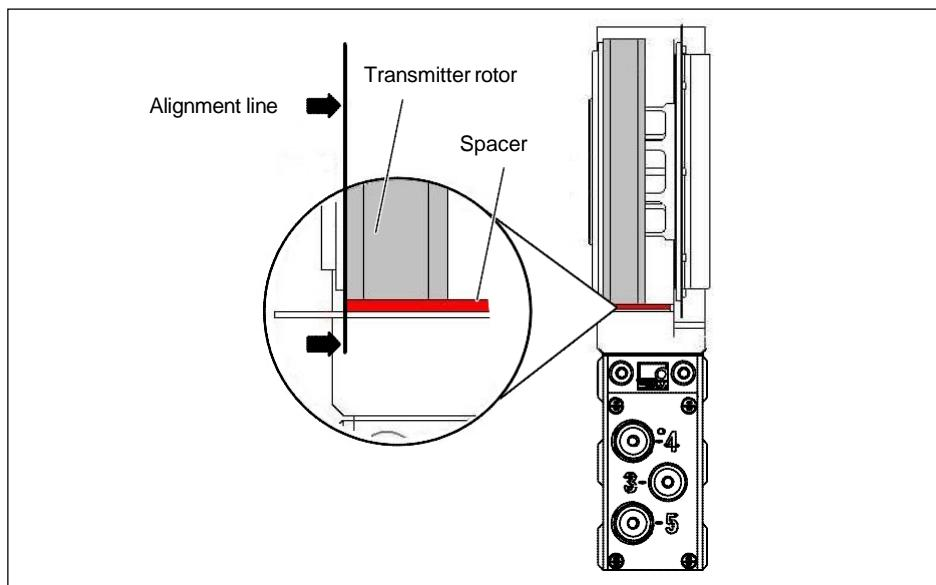

Fig. 8.18 Axial alignment to the rotor
5. Use the spacers to axially align the stator to the rotor. The rotor should be in line with the edge of the red spacer, see *Fig. 8.18*.